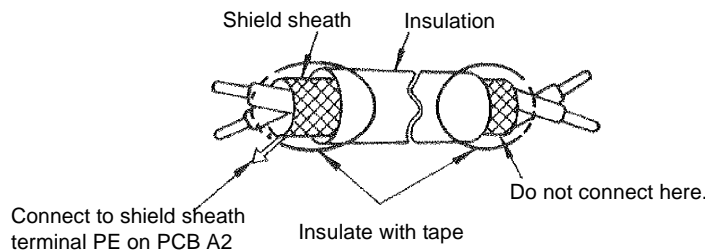

Fig 2.12 Preparing the Termination of Shielded Twisted-Pair Cables
4. Use twisted-pair or shielded twisted-pair cables for control circuits to prevent operating faults. Prepare cable ends as shown in Figure 2.12.